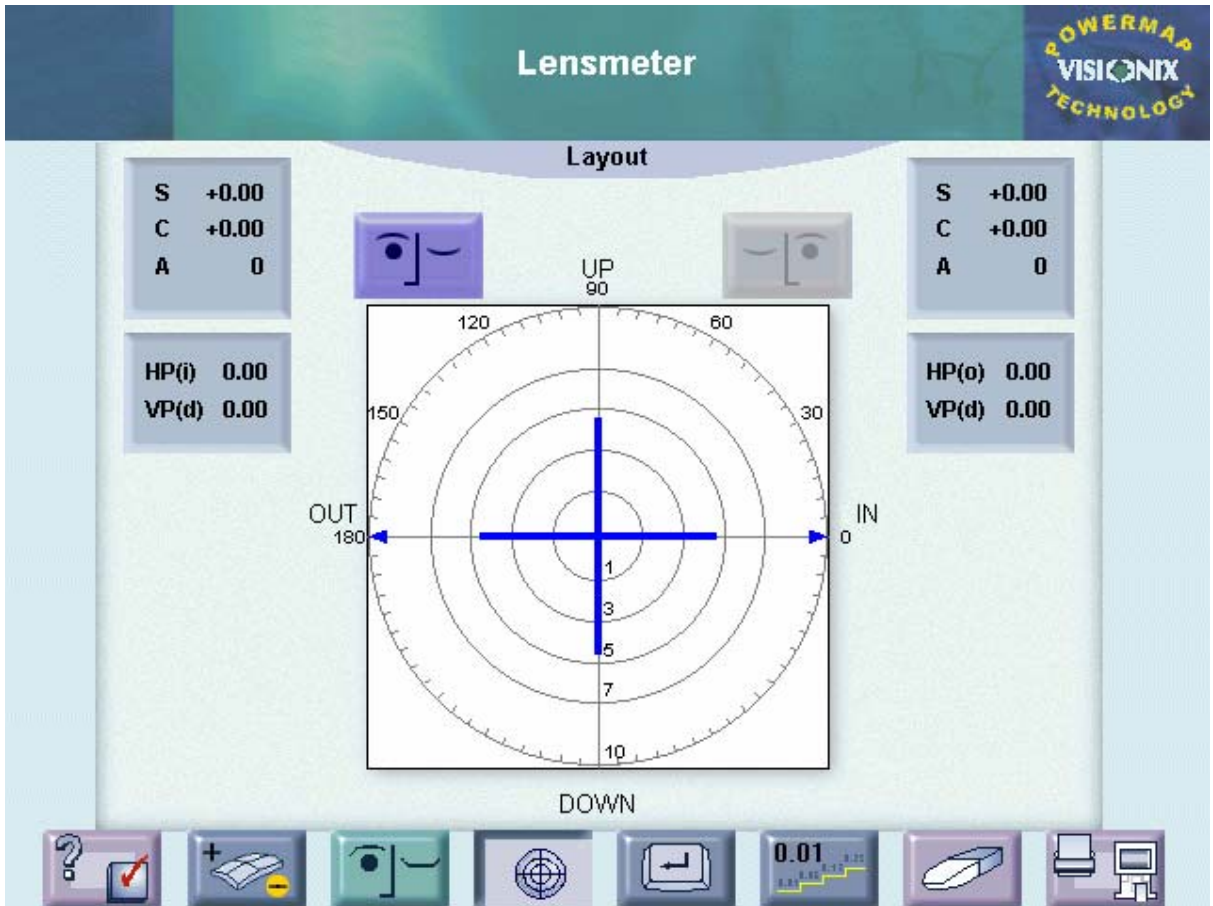

Figure 3
3. Press the Lens and Frame Detection Mode button (second vertical button); the Main Screen for the Lens detection mode is displayed (see **Figure 3**).